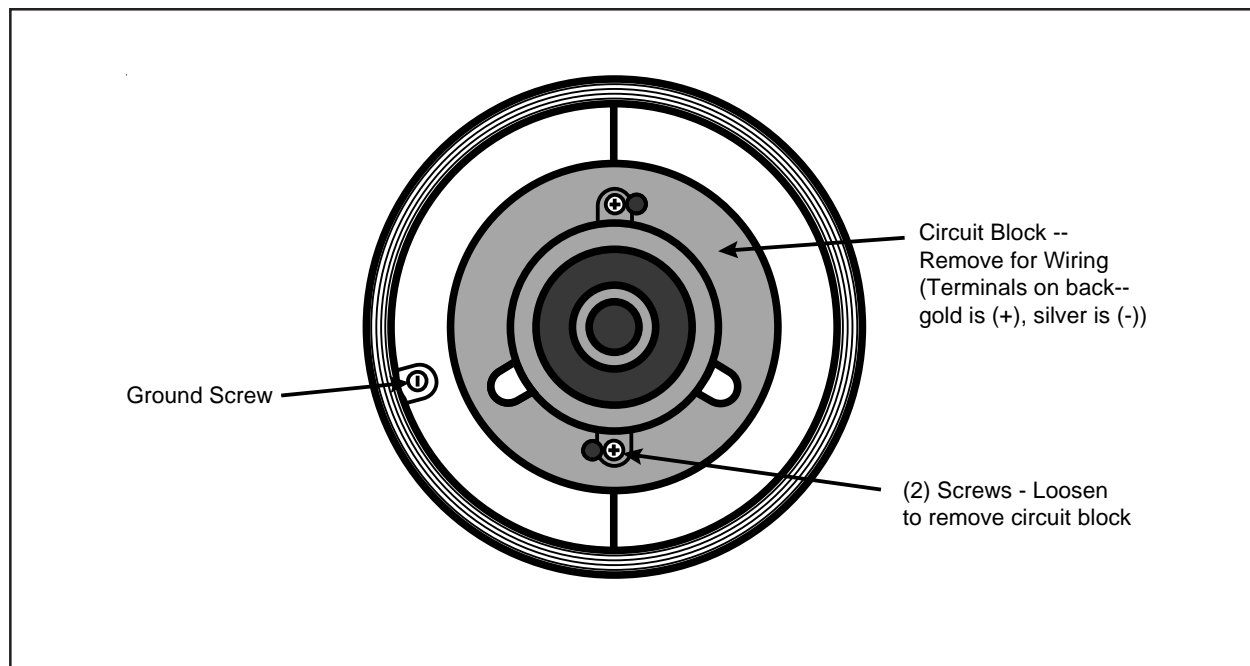

Figure 5. Wiring the AdaptaBeacon
3. Refer to Figure 5. Loosen the (2) screws holding the circuit block in place. Rotate and remove the circuit block.
4. Connect field earth ground wire to ground screw (Figure 5) or earth ground via conduit system.